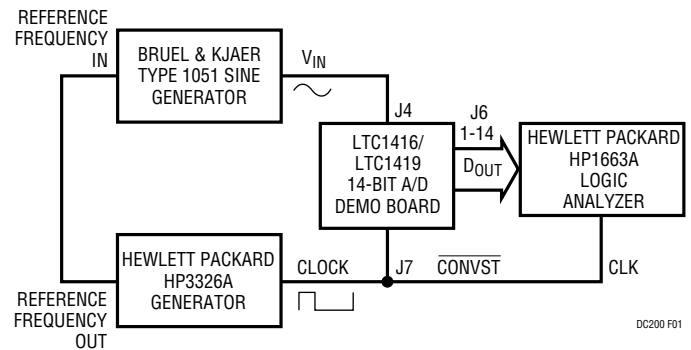

Figure 1. Typical Setup for LTC1419 Demo Board
1. Connect a -7V to -15V supply (J1), 7V to 15V supply (J3), 0V or ground (J2), input test signal generator (J4) and conversion clock source (J7) to the board as shown in Figure 1. As delivered, the board is configured for a ±2.5V input referenced to ground (JP2 and JP4 are shorted). Differential inputs can be converted
Optimum performance is achieved using a signal source that has low output impedance, is low noise and has low distortion. Signal generators, such as the B & K Type 1051 Sine Generator, give excellent results. Further, this generator can be configured to operate referenced to a master clock signal, as shown in Figure 1.